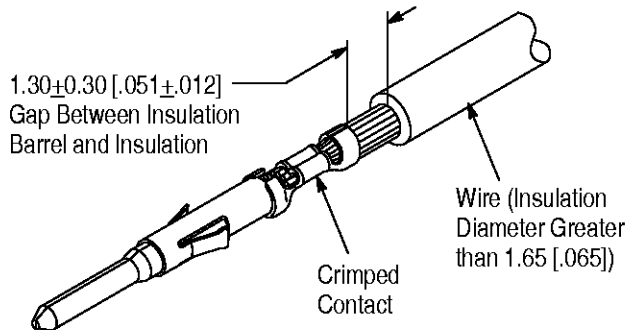

Figure 3
8. Inspect the crimp—the insulation barrel must be tight enough to hold the insulation firmly without cutting into it. For wire with an insulation diameter greater than 1.65 [.065], make sure that there is a gap of 1.30 ± 0.30 [$.051 \pm .012$] between the contact insulation barrel and the wire insulation. Refer to Figure 3.